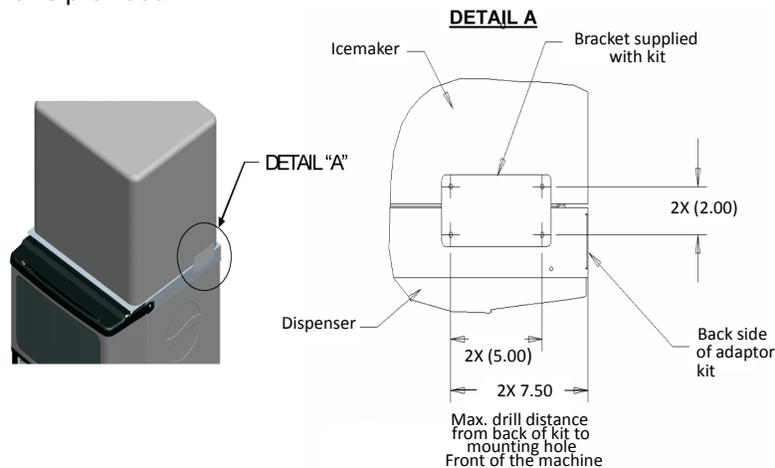

Figure 4.
- The next step is to secure the icemaker to the kit. Use the brackets (supplied) as templates to drill four 9/64" (.140" Dia.) holes into the adapter kit (2 per side). When drilling holes, the maximum distance from the back of the kit is 7.50 inches, refer to Figure 4. Failure to comply will result in damage to the sliding arm mechanisms internal to the kit. Drill four holes of the same diameter into the icemaker (2 per side). Ensure the location of the brackets will not damage the kit or the icemaker prior to drilling any holes. **USE EXTREME CAUTION NOT TO DRILL INTO ANY OTHER COMPONENTS.** Drill depths should not go further than the thickness of the material being drilled (just enough to go through). Secure the two brackets using the screws provided.